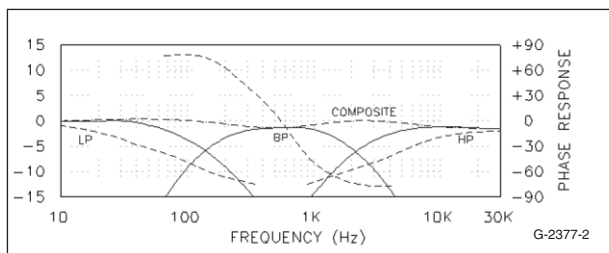

FIGURE 2: CO output and phase response vs. frequency
from the factory is shown in *Fig. 2* with a 15k load. The three solid lines are the frequency response for each output (LP, BP, HP). The three dashed lines represent the phase response, and the dash-dot line is the composite gain of the three sections as “perfect” drivers would reproduce them. The combined response results in an acoustic response flat to +0.3/-1.4dB. I truncated the frequency at 30kHz since the HP section response was still not down -1dB (ref 20kHz) even at 500kHz.